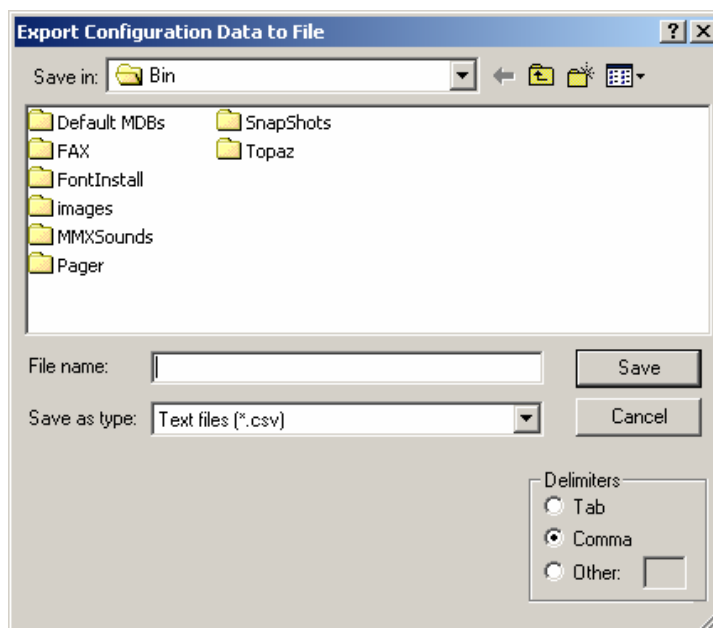

Figure D.7. Exporting Configuration Data to a .csv File
1. Start the Multimedia Configurator and open the .mdb configuration database that you want upsize. Select **Export CSV** from the **File** menu, and choose the .csv file for temporary storage of configuration data, as shown in **Figure D.7**. Click **OK**.